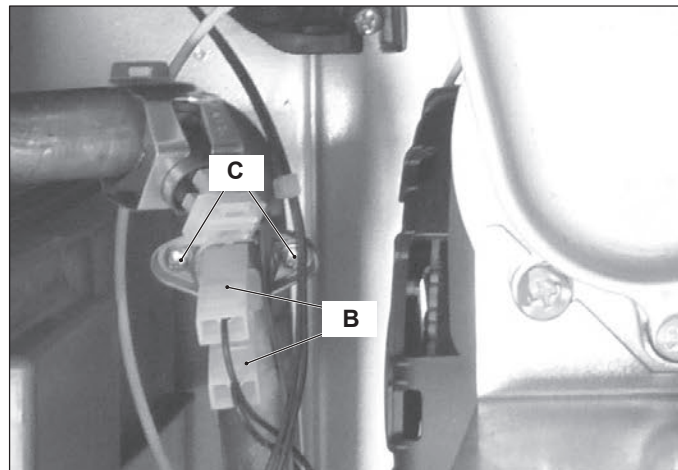

Figure 12.2
- 2 Disconnect the wiring "B" (detail in Figure 12.2).